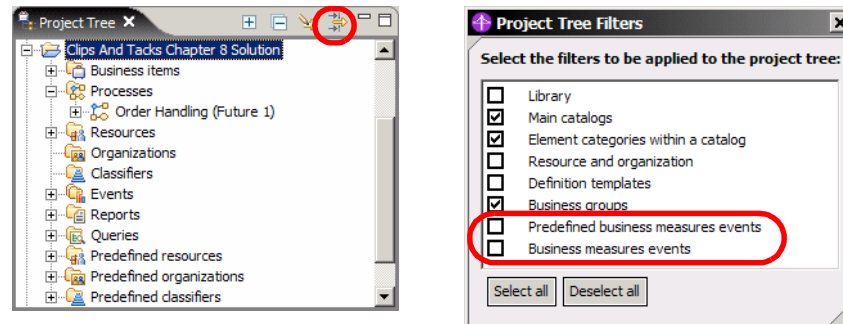

Figure 8-5 Project tree filter
- ▶ If you have not already done so, make business measures visible in the Project Tree, click the *Project tree filters* icon, and deselect both *Business measures* (Figure 8-5).